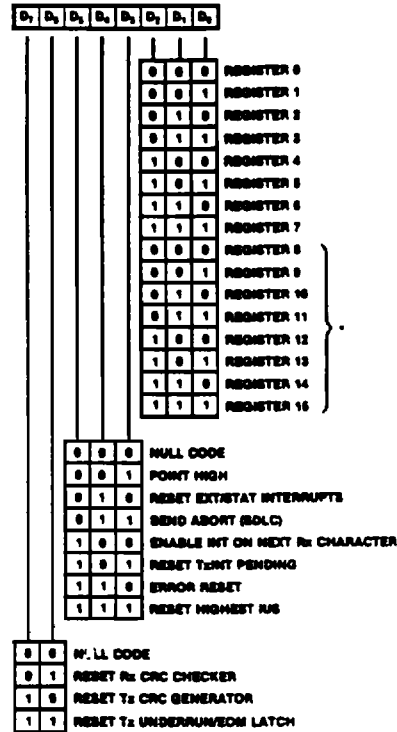

**Figure 10. Read Register Bit Functions**
**Interrupts.** When an SCC responds to an Interrupt Acknowledge signal ( $\overline{\text{INTACK}}$ ) from the CPU, an interrupt vector may be placed on the data bus. This vector is written in WR2 and may be read in RR2A or RR2B (Figures 10 and 11).
registers (RR12 and RR13) may be read to learn the baud rate generator time constant. RR2 contains either the unmodified interrupt vector (Channel A) or the vector modified by status information (Channel B). RR3 contains the Interrupt Pending (IP) bits (Channel A). Figure 10 shows the formats for each read register.